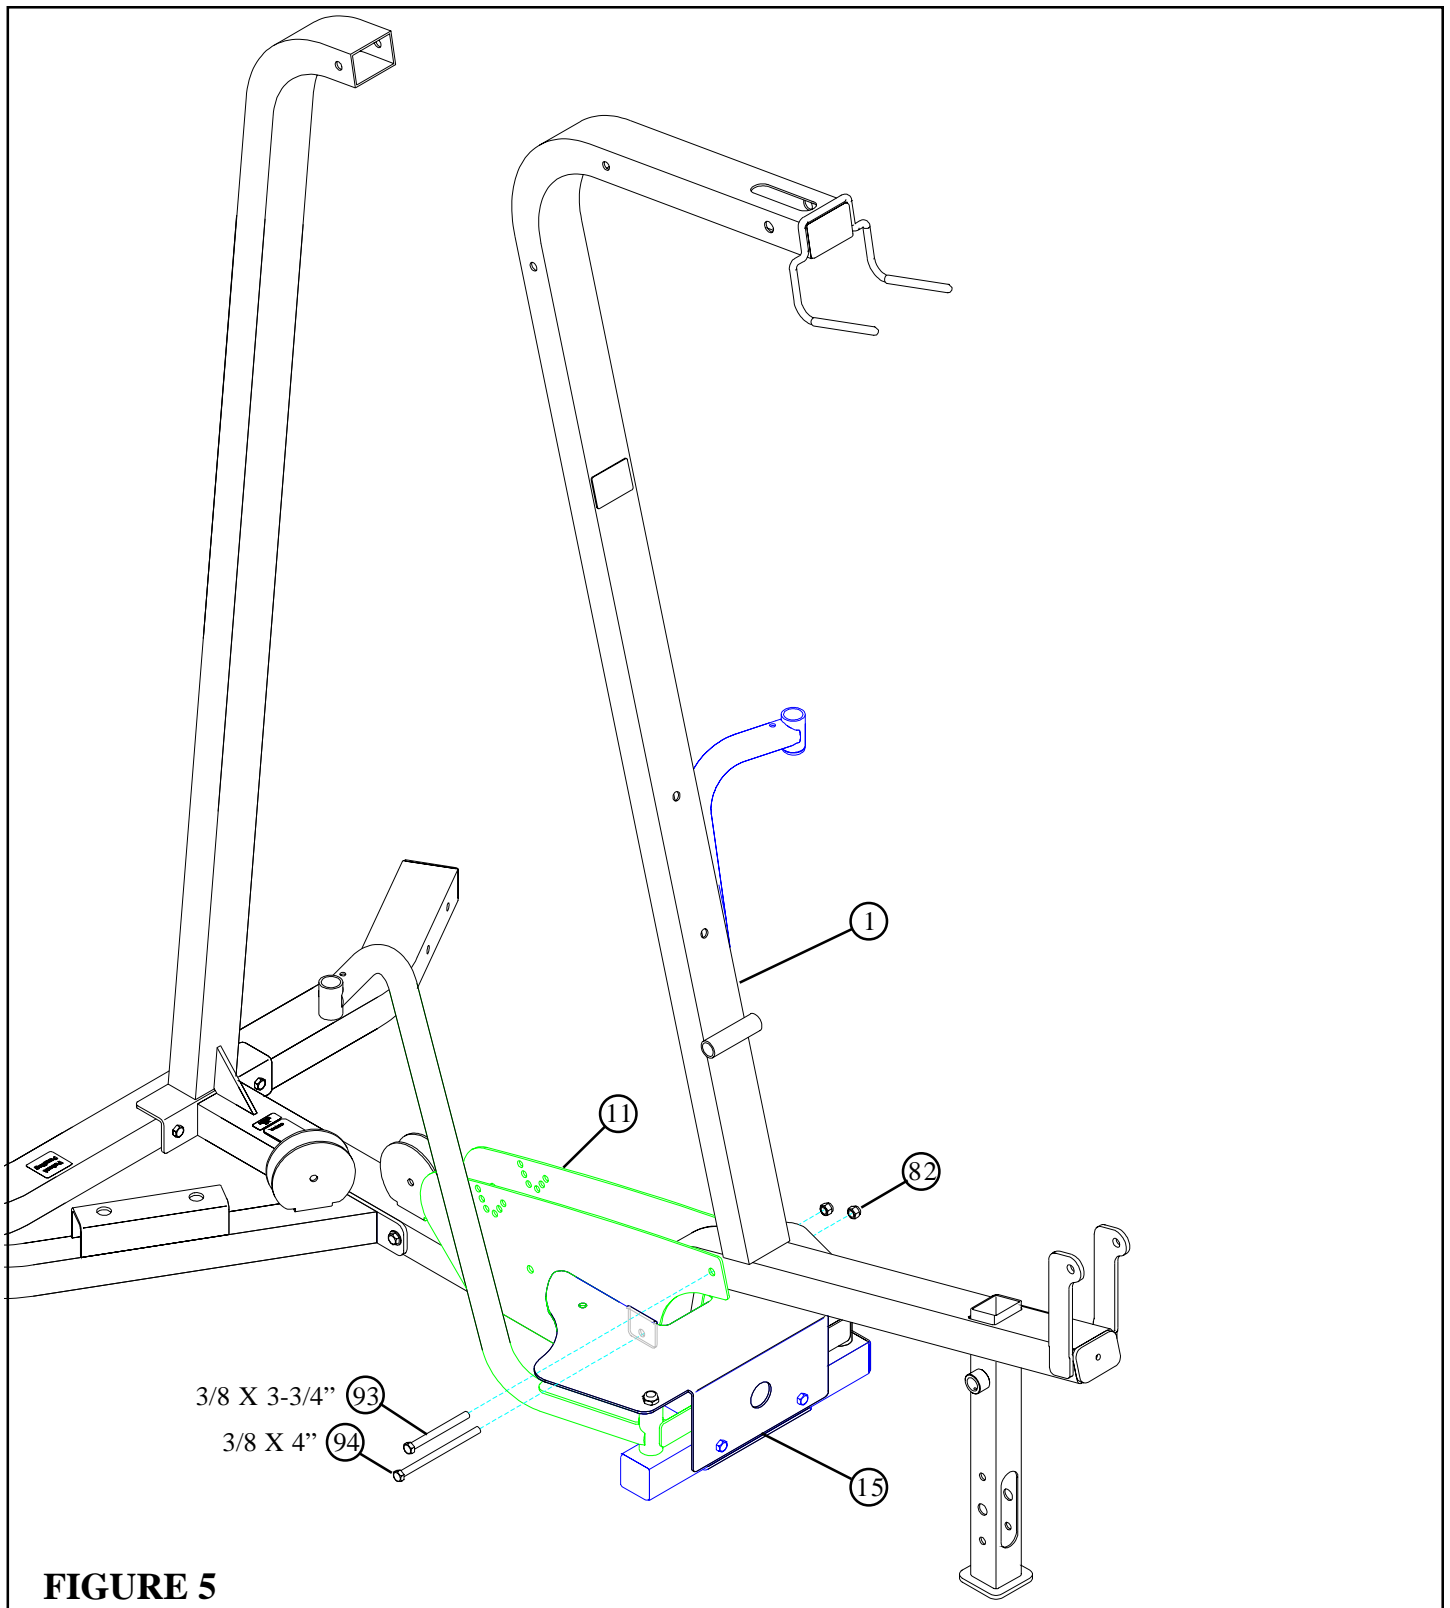

FIGURE 5
- **SECURELY** assemble the PEC PLATE (15) and the BASE PLATES (11) to the FRAME (1) using one 3/8 X 3-3/4" BOLT (93), one 3/8 X 4" BOLT (94) and two 3/8" LOCK NUTS (82) as shown in FIGURE 5.